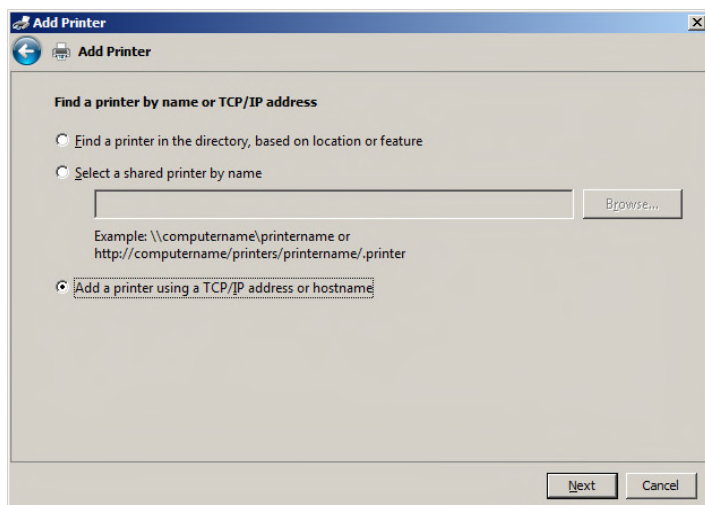

Figure 10.30 – Add Printer by TCP/IP
13) Click Next and select add a Local Printer. See Figure 10.30 below.